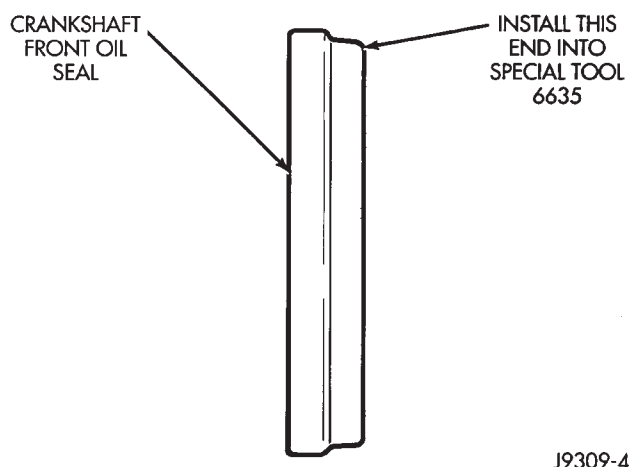

Fig. 6 Placing Oil Seal on Installation Tool 6635
(2) Place the smaller diameter of the oil seal over Front Oil Seal Installation Tool 6635 (Fig. 6). Seat the oil seal in the groove of the tool.
- (1) Disconnect the negative cable from the battery.
- (2) Remove vibration damper.
- (3) If front seal is suspected of leaking, check front oil seal alignment to crankshaft. The seal installation/alignment tool 6635, should fit with minimum interference. If tool does not fit, the cover must be removed and installed properly.
- (4) Place a suitable tool behind the lips of the oil seal to pry the oil seal outward. Be careful not to damage the crankshaft seal surface of cover.
- (5) Place the smaller diameter of the oil seal over Front Oil Seal Installation Tool 6635 (Fig. 6). Seat the oil seal in the groove of the tool.